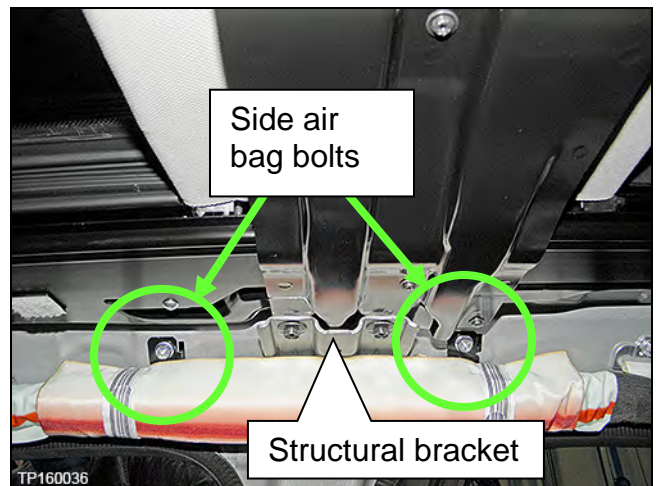

Figure 64
3. Remove the two side air bag bolts (per side) that attach the left and right side airbags to the roof rail and then allow them to hang free (Figure 64).